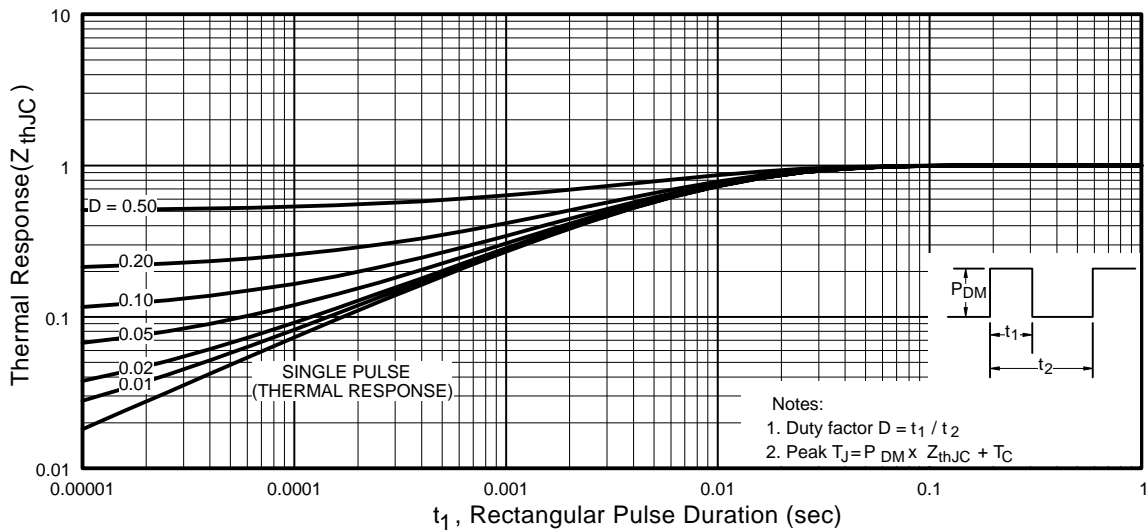

Fig 11. Maximum Effective Transient Thermal Impedance, Junction-to-Case
- ① Repetitive rating; pulse width limited by max. junction temperature. (See fig. 11)
- ② Starting $T_J = 25^\circ\text{C}$, $L = 64\mu\text{H}$